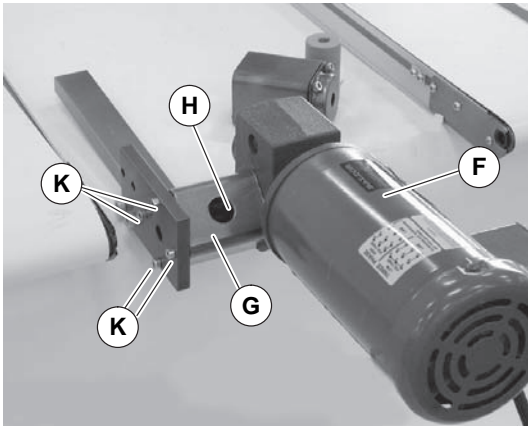

Figure 36
6. Remove four (4) screws (Figure 36, item K) and remove guard tube (G) and flex coupling (H). Remove gearmotor assembly (F).